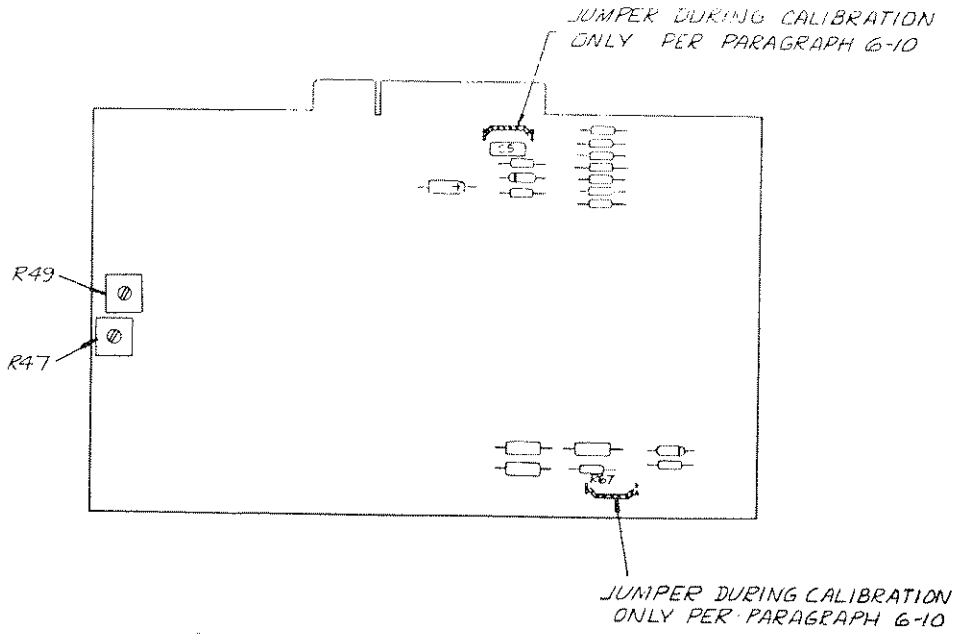

Figure 6-3. Adjustment and Terminal Identification for Assembly No. 102524
- a. Install jumper wire or clip lead between two terminals on Card A11 near capacitor C5. See figure 6-3 for terminal locations. Note that main frame calibration must be performed prior to the following adjustments.
- c. Set the Automatic Calibration switch to the CAL 0 position and adjust potentiometer R49 for  $+0.0020 \pm 0.0001$  Vdc on pin 11 of the Card 11 connector. Measure this voltage with the Fluke DVM. Refer to figure 6-3 for potentiometer locations.
- d. Set the digital panel meter zero (0) potentiometer for an indication of  $+000.20 \pm 0.01$  degrees.